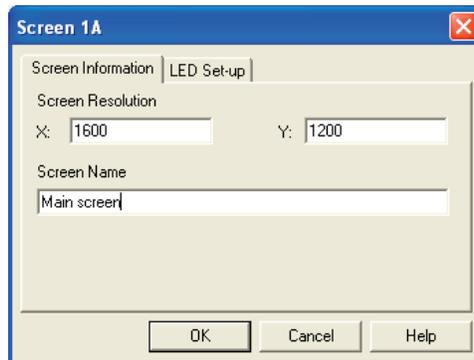

Figure 4-3. Defining the resolution of a screen and (optionally) a name
3. Double-click on each screen representation to set the screen resolution and, optionally, add a screen name and/or configure an LED indicator (if used). See Figure 4-3.